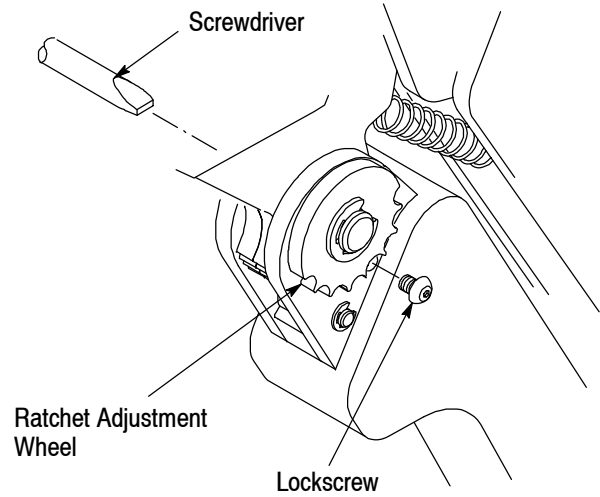

Figure 5
**5.4. Ratchet Adjustment** (Figure 5)